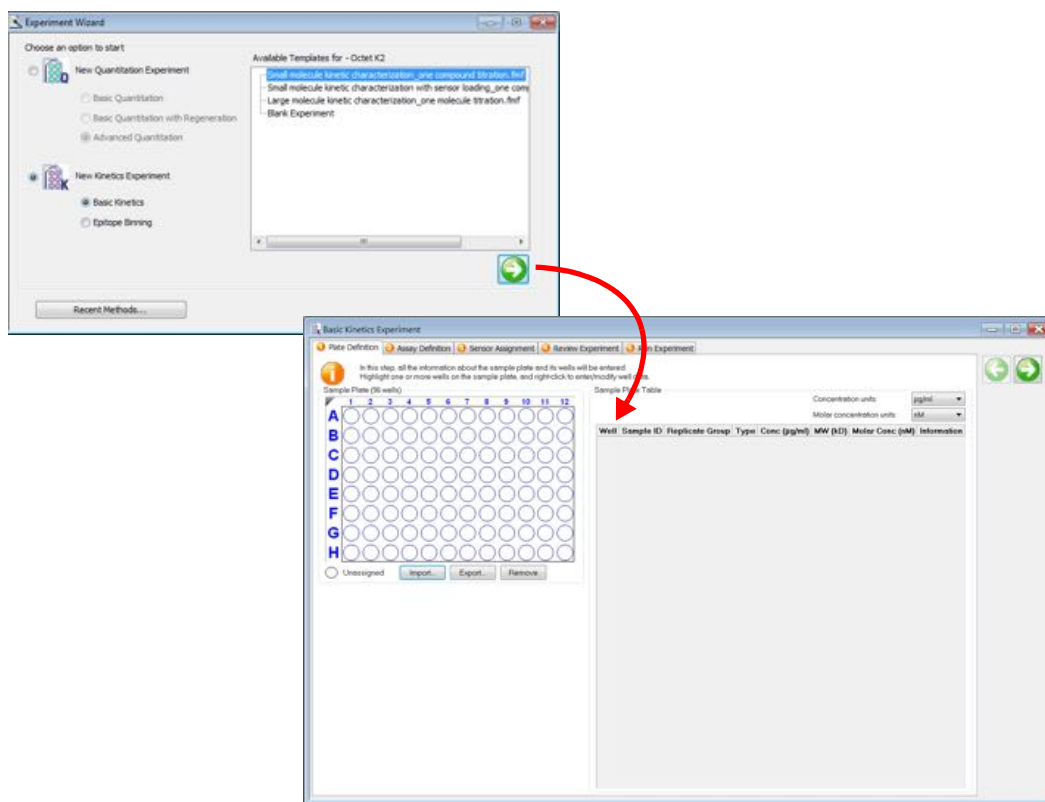

Figure 8-1: Starting a Kinetics Experiment with the Experiment Wizard
2. In the **Experiment Wizard**, click **New Kinetics Experiment** (Figure 8-1, left).
4. Click the arrow button(➡). The Basic Kinetics Experiment window displays (Figure 8-1, right).